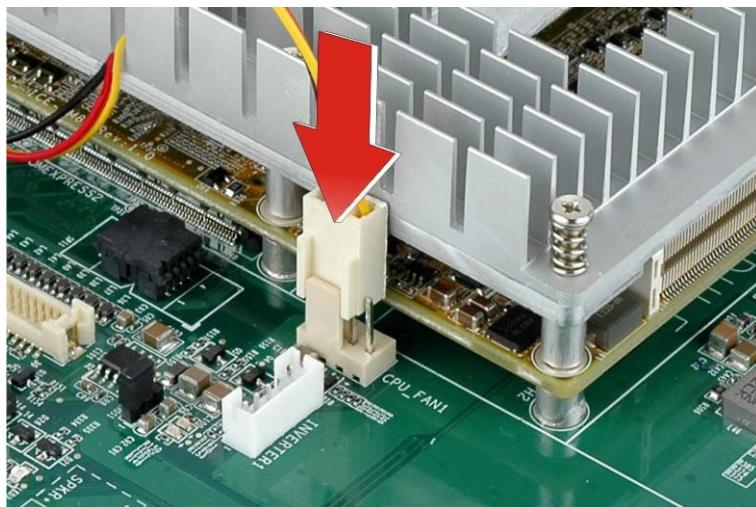

Figure 4-6: Connect to the CPU Fan Connector on the Baseboard
Step 5: Connect the cooling kit fan cable to the CPU fan connector on the baseboard (Figure 4-6).